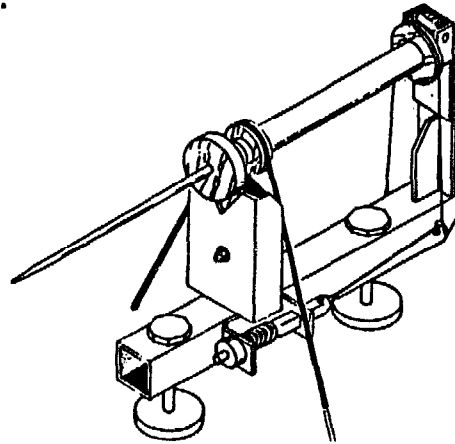

Figure 4.2 – Rewind spindle on a fine yarn spinning-mechanism
- For a *fine yarn spinning mechanism* (figure 4.2):